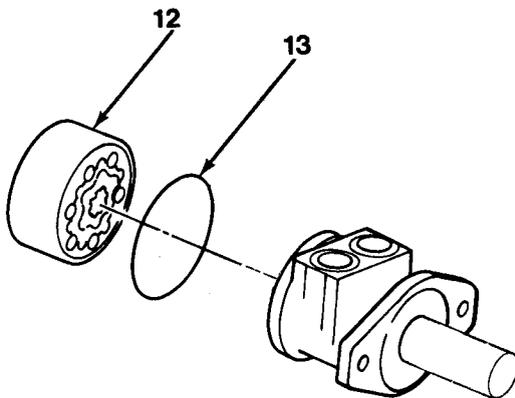

Figure 13-3
12. Place wear plate (14) with either side up onto rotor assembly (12, Figure 13-3) and align wear plate bolt holes with rotor assembly set (12) bolt slots.
13. Install new seal ring (13) into seal ring groove in rotor assembly set (12).